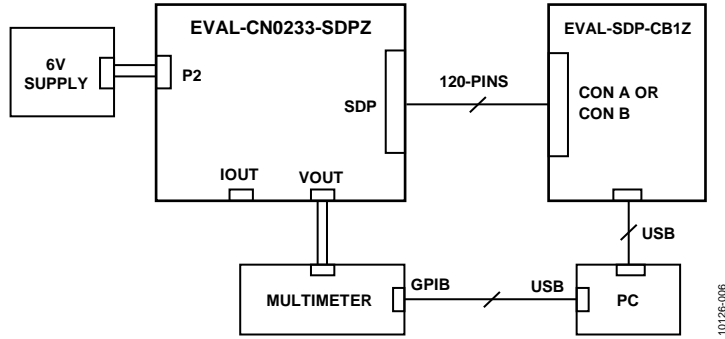
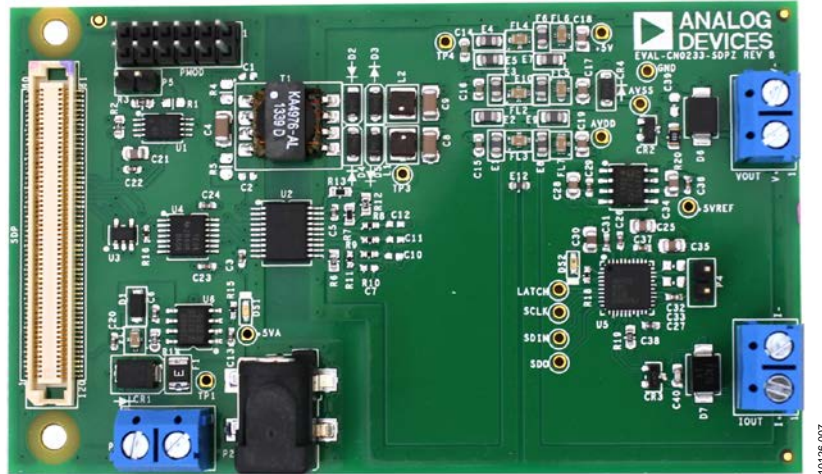

Figure 6. Functional Block Diagram of Test Setup Showing Evaluation Board Connections
Figure 7. EVAL-CN0233-SDPZ PC Board Photo
This circuit was tested using the EVAL-CN0233-SDPZ circuit board and the EVAL-SDP-CB1Z connected together as shown in Figure 6.
The circuit was tested and verified by connecting both the EVAL-CN0233-SDPZ evaluation board and the EVAL-SDP-CB1Z evaluation board, as shown in Figure 6.
The CN-0233 Evaluation Software is used to capture the data from the EVAL-CN0233-SDPZ circuit board using the setup seen in Figure 6. Details regarding the use of the software can be found in the CN-0233 Software User Guide.
- Changes to Figure 6; Added Figure 7 4